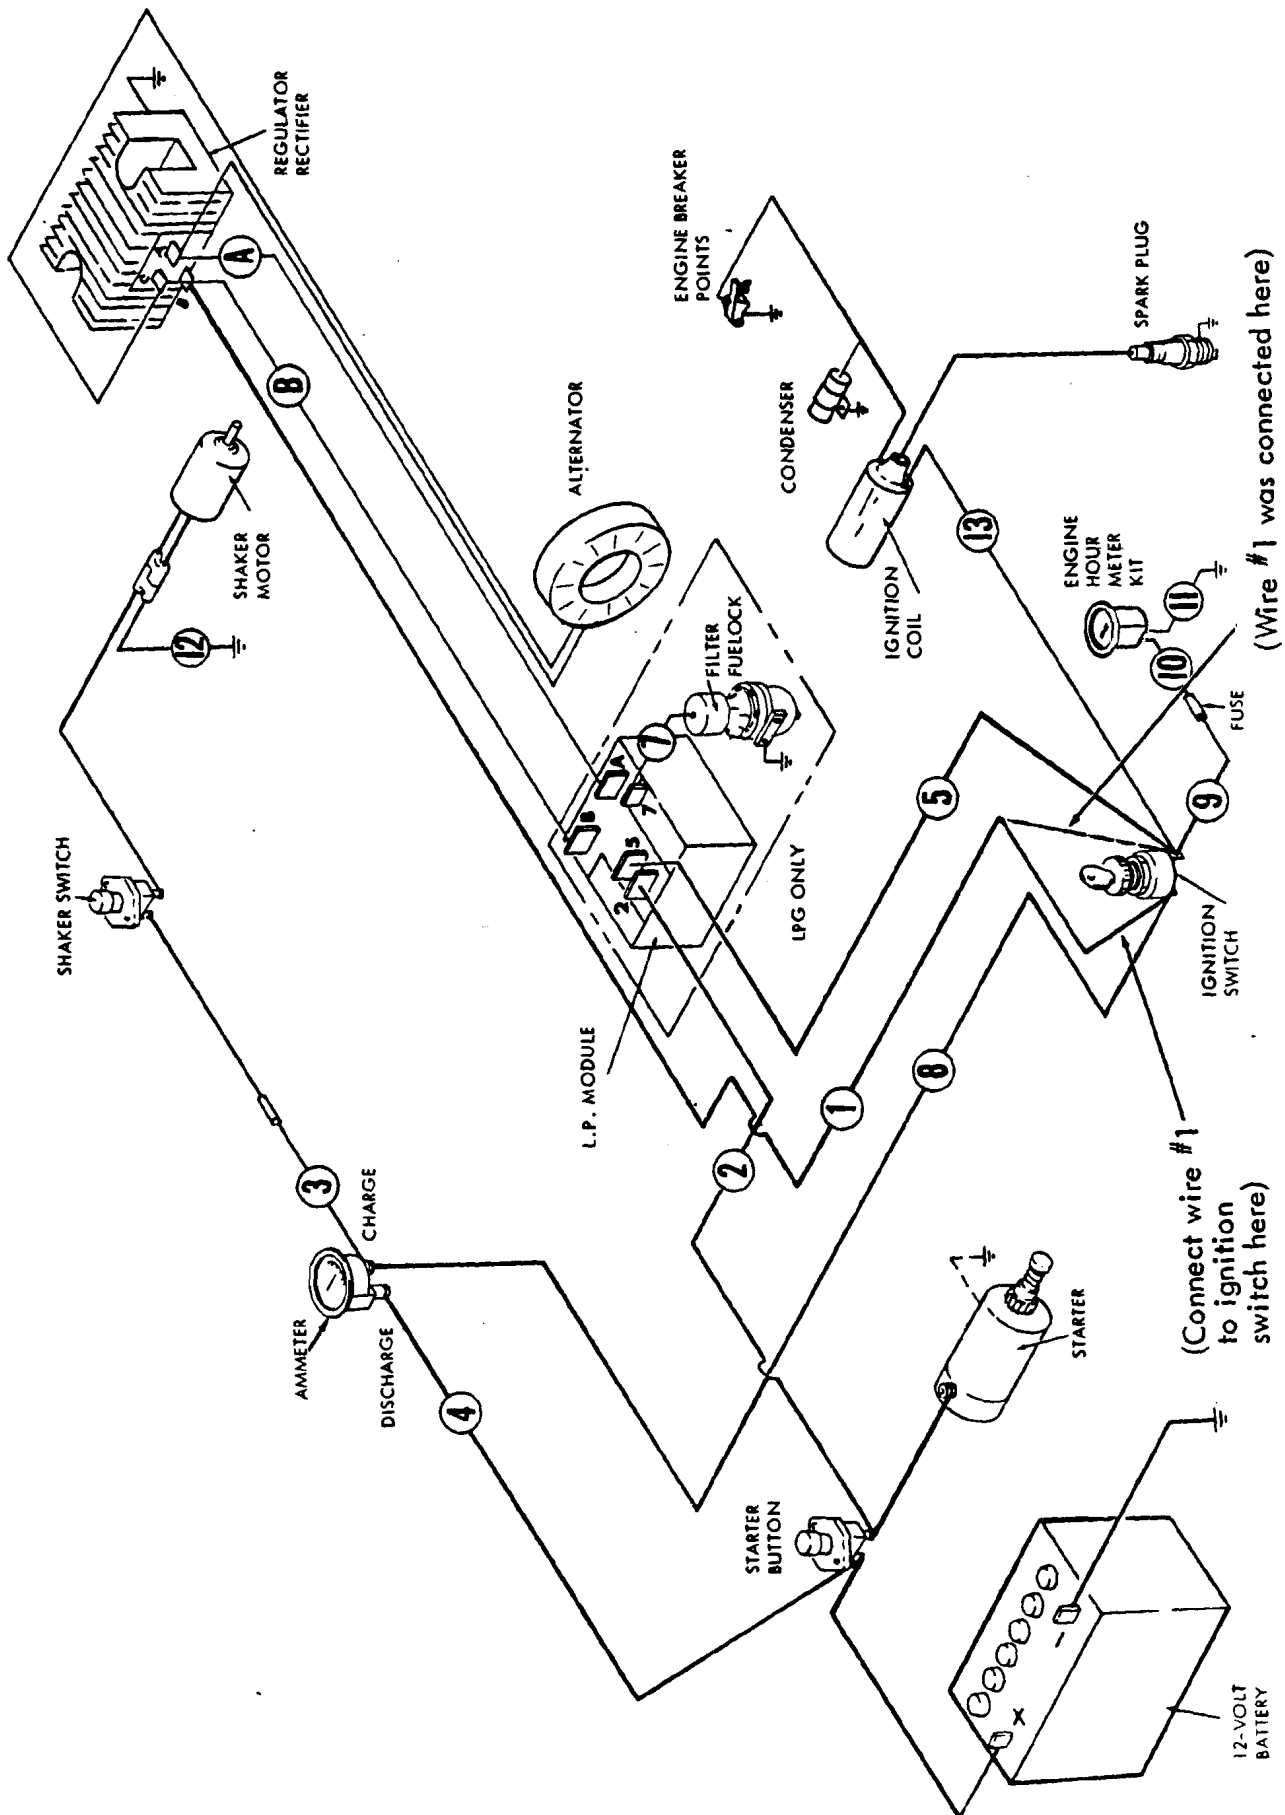

Fig. 1 - WIRING DIAGRAM FOR REGULATOR-RECTIFIER 27222-2
4. Install the new regulator-rectifier. Hook wires up according to Fig. 1. Wire 1 which was connected to Wires 5 and 13 to one terminal of the ignition switch, should be hooked up to the terminal where Wire 8 is connected.